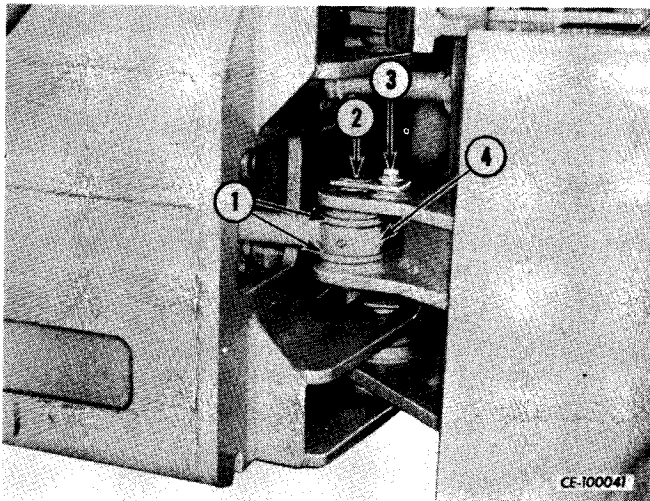

Figure 11-24
Remove cap screw (3, Fig. 11-24) and pull pin lock (2). Remove end of cylinder rod (4) from the mounting brackets and discard cord rings (1). Start engine and move steering wheel in
Install rod end of cylinder (4, Fig. 11-24) with two new cord rings (1), between mounting brackets. Drive pin lock (2) through mounting brackets and rod. Install and tighten cap screw (3).